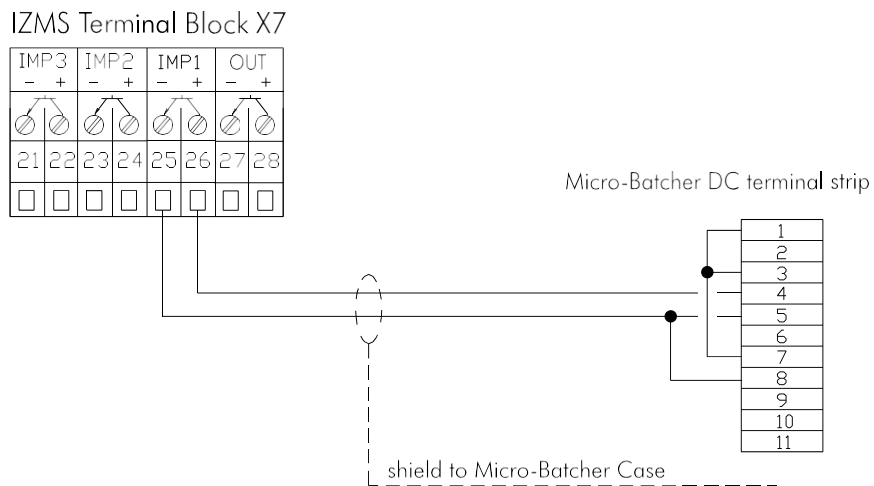

Figure 3-11. MB-51 Micro-Batcher Signal Wiring Configuration
- P MB-51P Micro-Batcher (Figure 3-11)